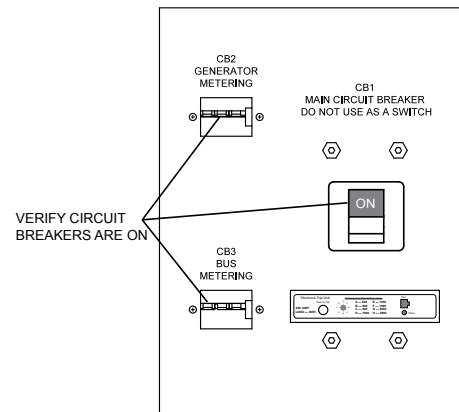

Figure 24. Circuit Breakers (ON)
5. Verify that all three circuit breakers (Figure 24) are in the ON position prior to starting the engine.